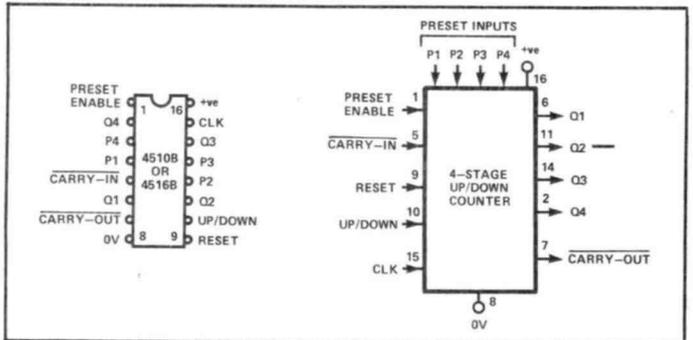

Figure 22: Outline and functional diagram of the 4510B (decade) and 4516B (binary) UP/DOWN counters.
The 4510B and 4516B are presettable up/down counters; the 4510B is a decade counter with BCD outputs, and the 4516B is a binary (hexadecimal) counter. The ICs have identical outlines and functional diagrams, as shown in **Fig. 22**. These counters have a RESET terminal which enables all outputs to be set low (cleared) by applying a high level on the RESET line; the outputs can be made to agree with a binary code on the PRESET (P) terminals by applying a high level on the PRESET ENABLE line. The IC counts 'up' when the UP/DOWN terminal is high, and 'down' when the terminal is low; the UP/DOWN input must only change when the CLOCK signal is high.